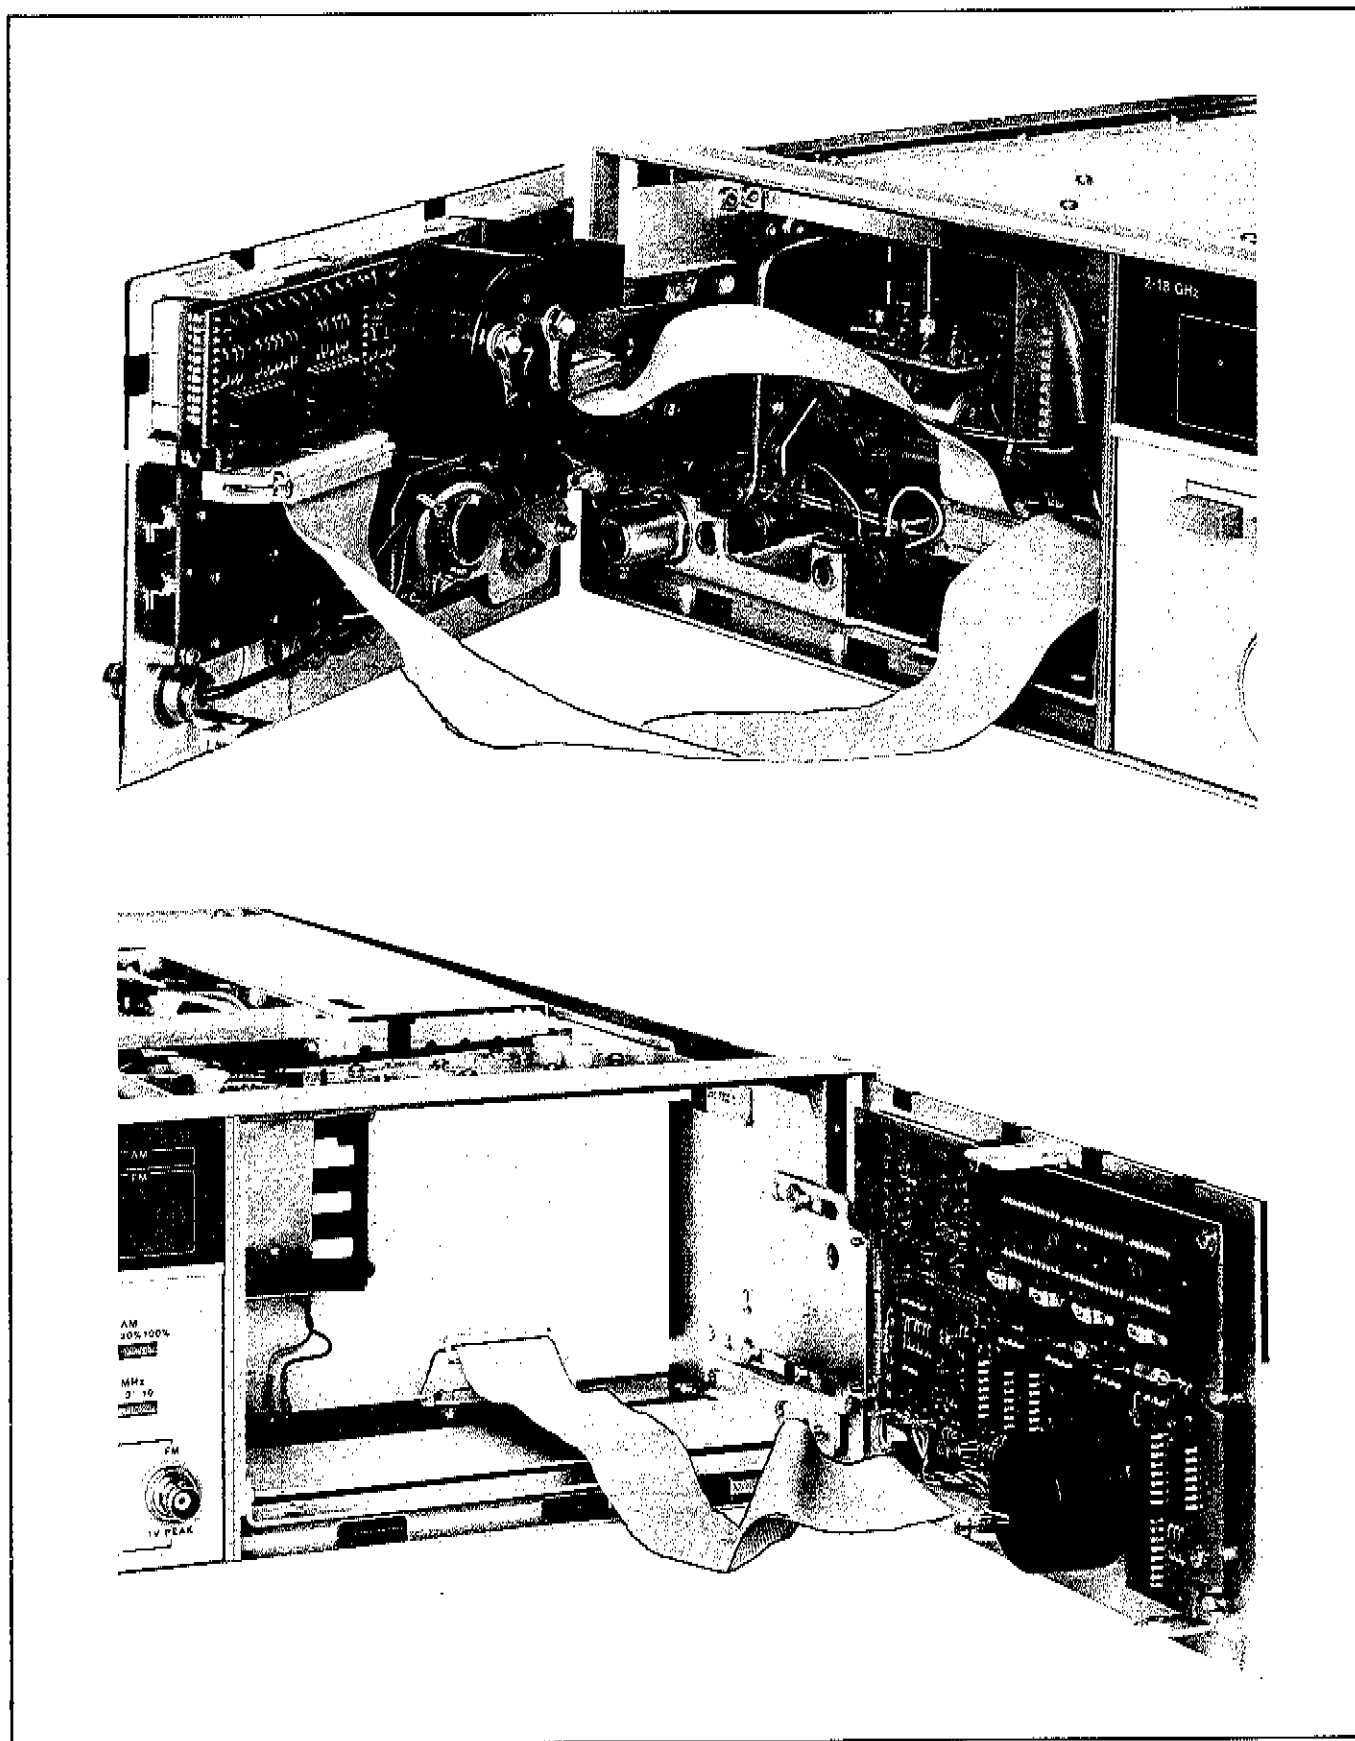

Figure 8-3. A1 and A2 Assembly Front Panel Fully Extended
g. Carefully, pull the front panel outward to clear the front frame (see Figure 8-3).